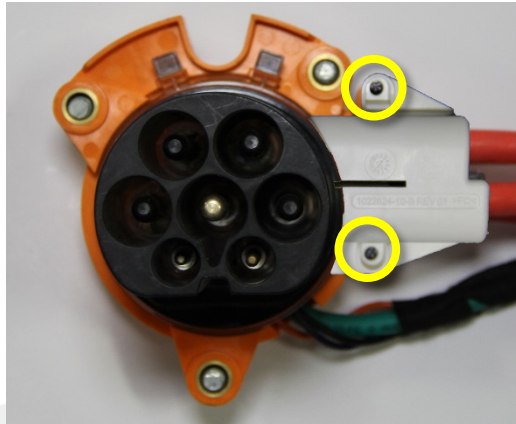

Figure 44
22. Install the 2 screws that secure the pin carrier to the pin carrier cap (Figure 44):